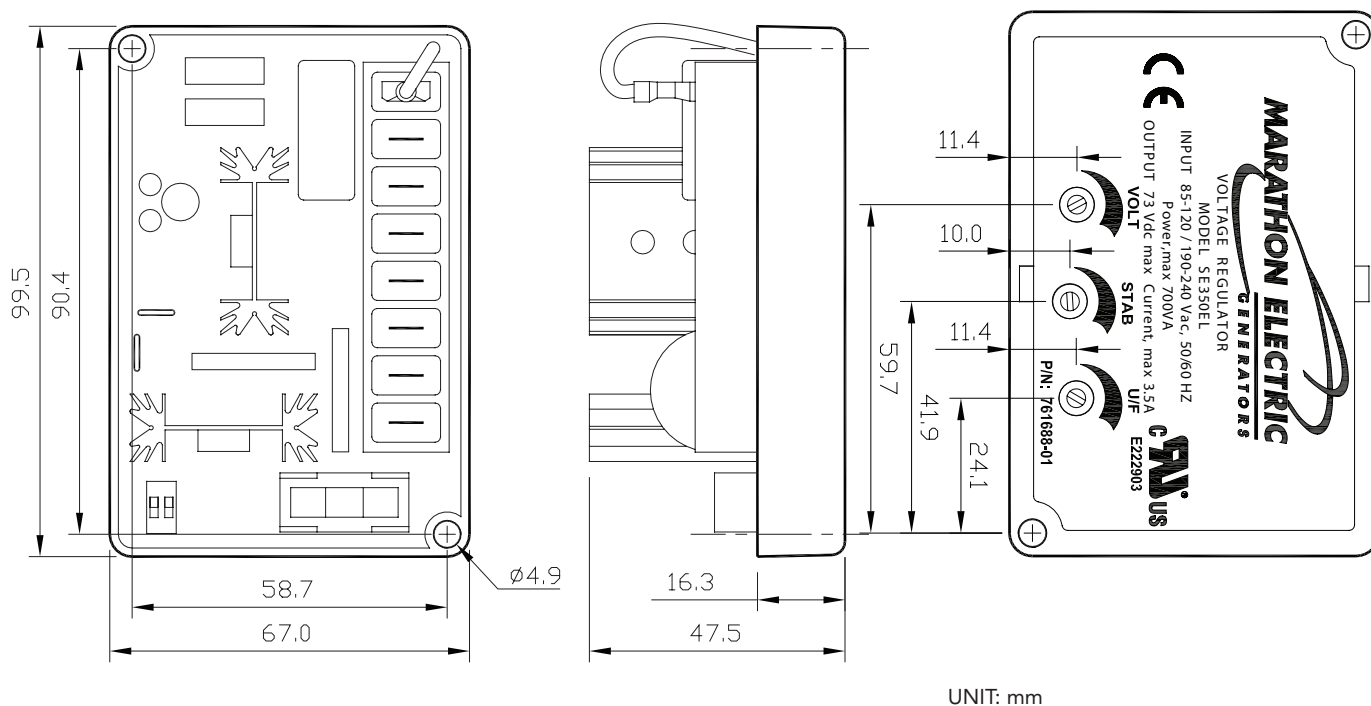

Figure 1 - Outline and Drilling Diagram
1. The frequency compensation characteristic of Figure 1 used to improve system load pickup performance by restraining voltage recovery until frequency has also started to recover.